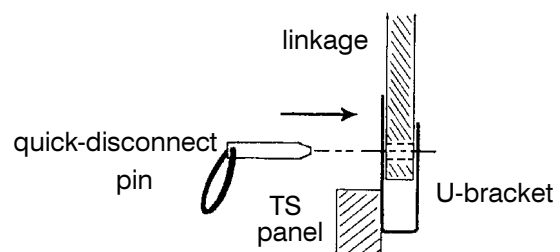

Figure 3-8. Transfer switch installation.
2. Install the transfer switch by grasping the back pane and lifting it onto two support brackets extending outward. Press down balancing handle (right side) until slots accept the mounting bushings. Push panel flat against rails and secure it by lifting up handle. Install safety retaining nut (upper right corner). Position linkage from Isolation Handle between U-bracket on transfer switch (use handle to line up), then insert quick-disconnect pin and press ring flush. See Figure 3-8.